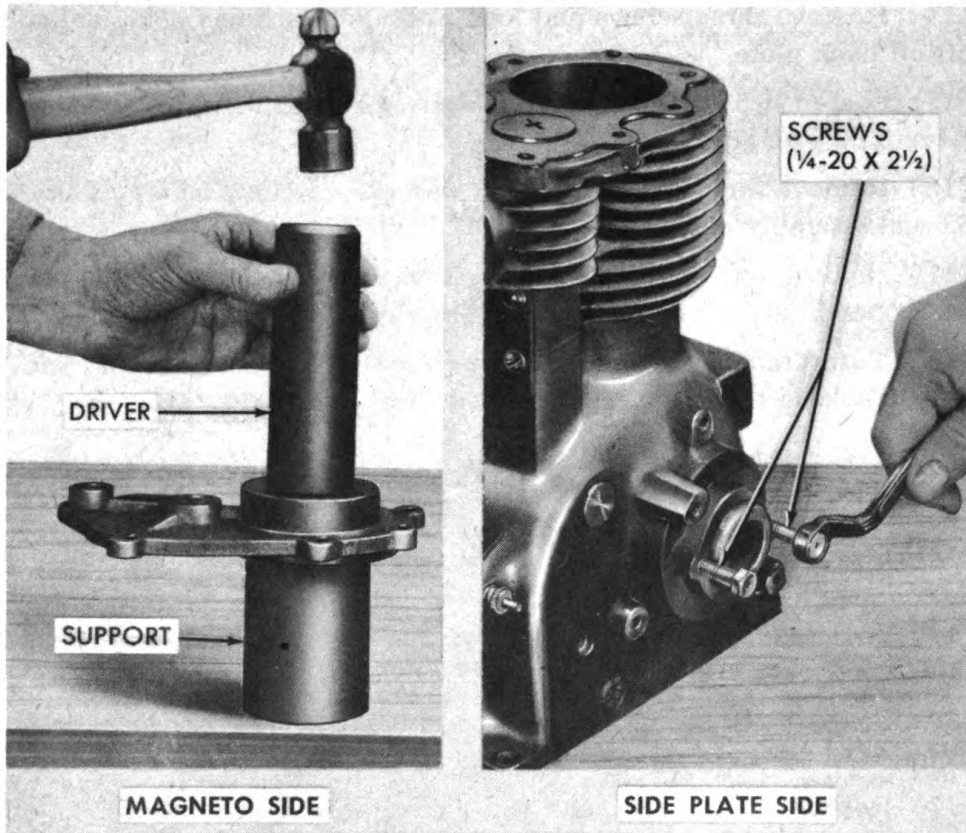

Figure 30—Main Bearing Cup Removal
- (1) Inspect the bearings for scoring, chipping, brinelling, rough spots, overheating, etc. Replace any parts found defective.
- (2) To replace bearing cones, mount crankshaft in a vise equipped with soft jaws, then use a suitable puller and remove bearing cones.
- (3) To remove bearing cup, magneto side, remove two headless screws, and install two $\frac{1}{4}$ -20 x $2\frac{1}{2}$ inch cap screws as shown in figure 30. Turn these screws in alternately and evenly forcing bearing cup and oil seal plate from bearing recess in bloc.
- (4) To remove bearing cup from side plate, support the side plate near bearing cup as shown in figure 30 to prevent breaking or distorting side plate. Use a suitable driver to remove bearing cup.
- (5) Support side plate as near bearing bore as possible and press a new bearing cup into place, being sure it is against shoulder of bearing bore.
- (6) Install a new oil seal deflector in bearing bore, magneto side. Support the bloc as near bearing bore as possible and press a new bearing cup into place being sure deflector and cup are seated against shoulder of bearing bore.